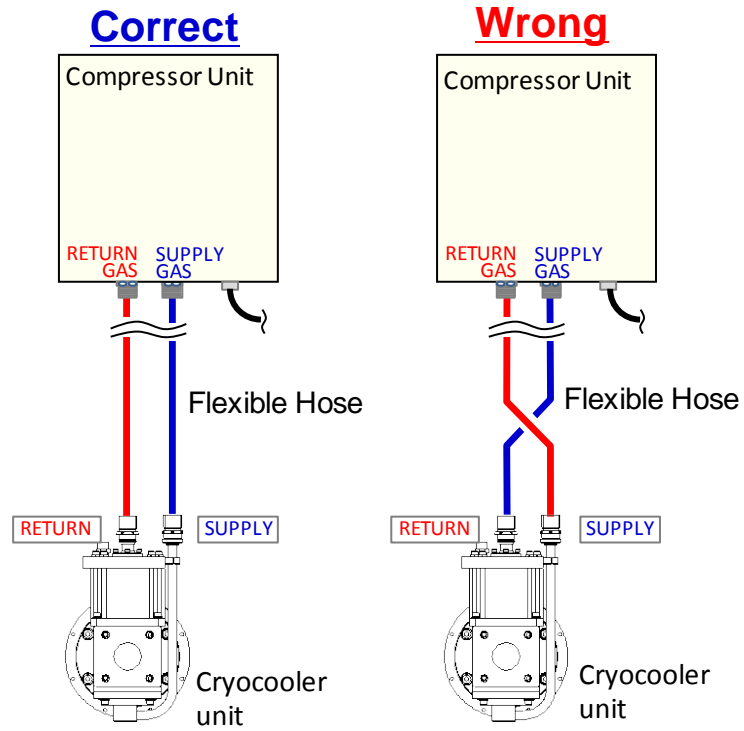
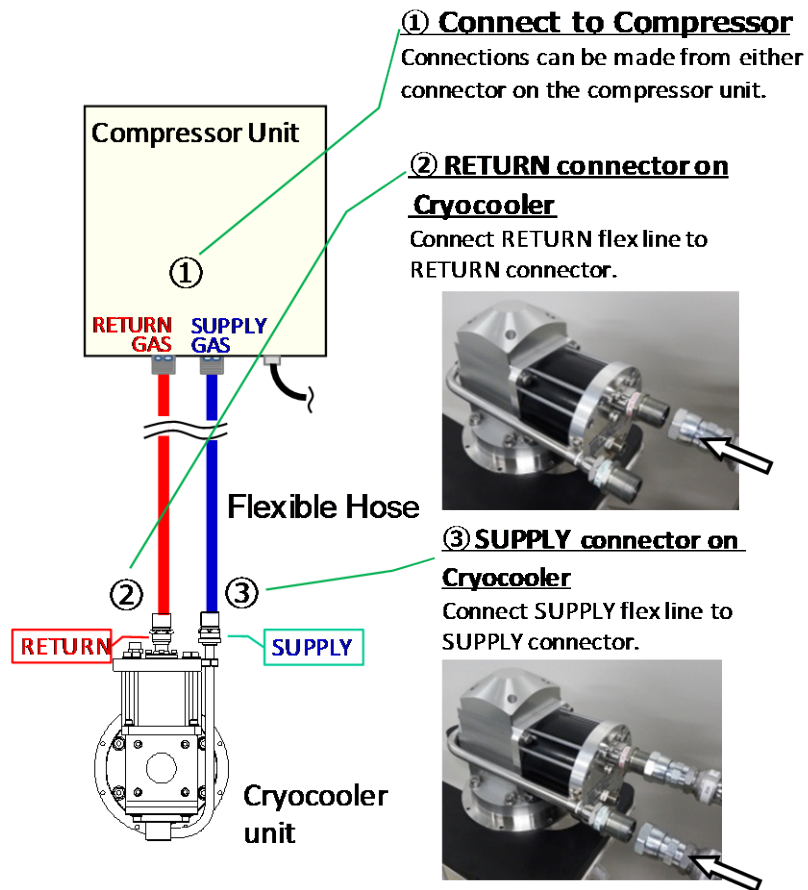

Figure 3-3 Connecting helium flexible hoses correctly
Figure 3-4 Flexible hoses connection order
- ◇ When installing the 4K Cryocooler, clear the space for performing maintenance work. Figure 3-4 shows necessary space.
2. Connect the flexible hoses between the compressor unit and the Cryocooler as follows. Refer to the instructions in Figure 3-3 and Figure 3-4 and perform the connection work in correct order.